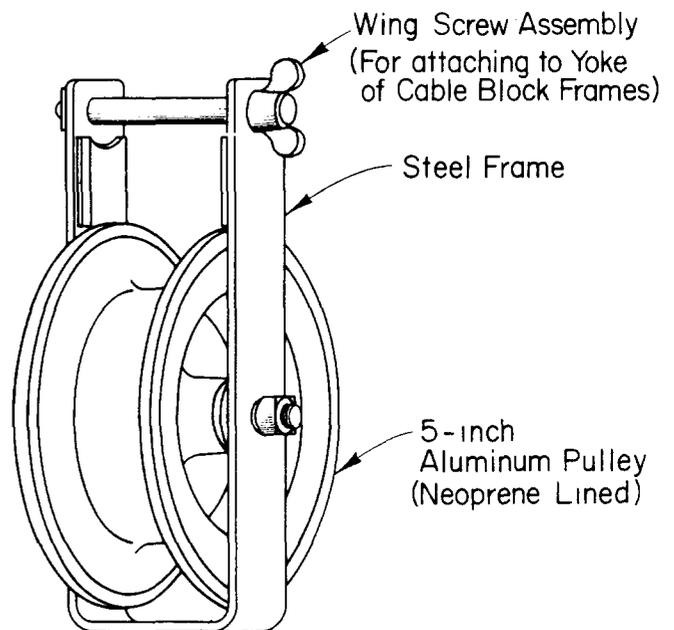

Fig. 1—E Cable Block
3.01 **E Cable Block:** The E cable block (Fig. 1) is used with B, C, D, E, and F cable block frames. The pulley of the E cable block should be clean and rotate freely. When necessary, remove the pulley from the support, clean the bearings, and lubricate with a light cup grease. Should the neoprene wear off the pulleys, the blocks should be returned for repair in accordance with local instructions.